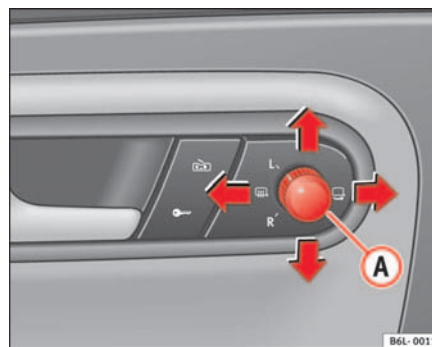

Fig. 67 Exterior mirror control
1. Turn knob ⇒ **fig. 67** to position **L (left exterior mirror)**.
- Turn the knob to demisting ⇒ **fig. 67**.
- Turn the control ⇒ page 98, fig. 67 to position  to fold in the exterior mirrors. You should always fold in the exterior mirrors if you are driving through an automatic car wash. This will help prevent damage.